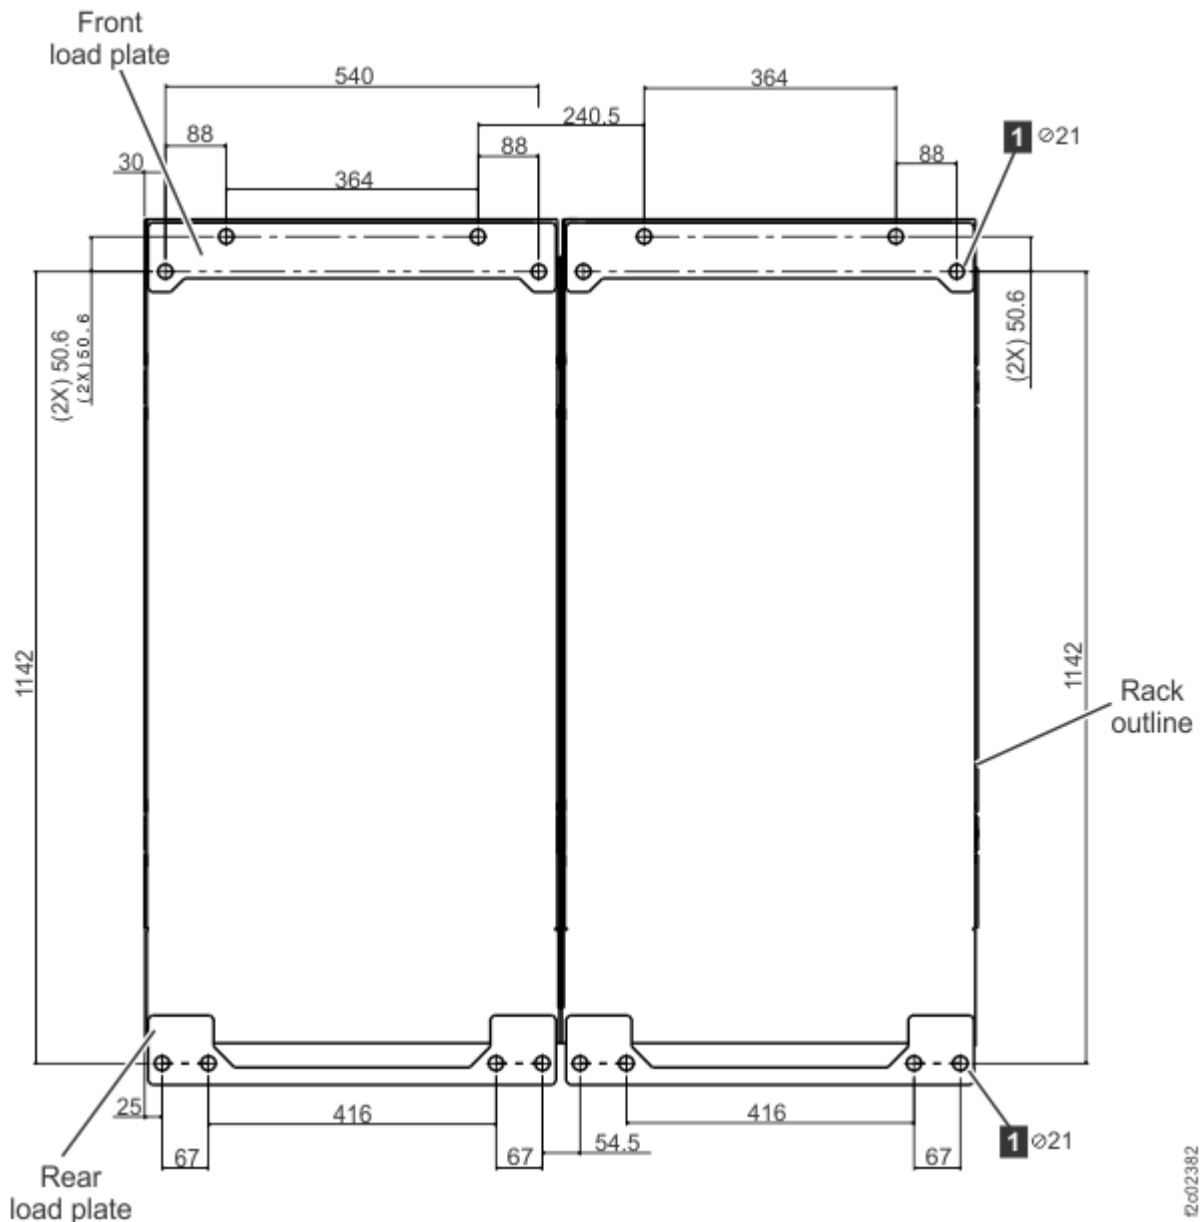

Figure 25. Location for fastener installation (nonraised floor)
- Use Figure 25 on page 142 to determine the placement of the loadplate fasteners **1** (four per loadplate). The pattern repeats for each frame. Dimensions are in millimeters (mm).